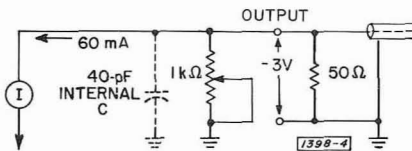

Figure 3-5. Equivalent circuit for achieving ultimate rise time.
and (2) the ultimate rise time can be realized only by termination of the instrument either externally by placing a 50-Ω resistor across the output terminals, or internally by setting the output impedance to 50 Ω (AMPLITUDE switch at 0.1, AMPLITUDE control centered), or both, as shown in Figure 3-5. Here the time constant of the output circuit is about 1.5 ns, and the fast rise and fall of the current pulse can be observed.